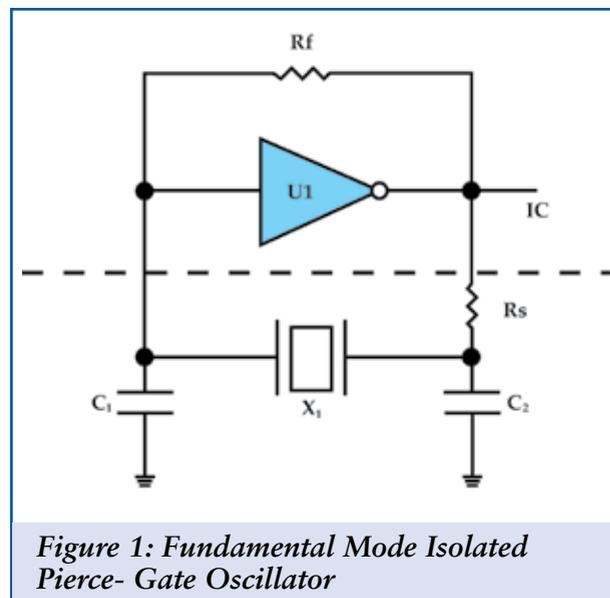

Figure 1: Fundamental Mode Isolated Pierce-Gate Oscillator
The most common gate oscillator in use today is by far the Pierce-Gate shown in Figure 1. Its popularity stems from the fact that the digital inverter, U1, is usually included in the microprocessor or ASIC the designer selects. In effect, the oscillator cell U1 is free!
The crystal X1 in Figure 1 needs to be
- The feedback resistor  $R_s$  is not internal as shown in Figure 1.